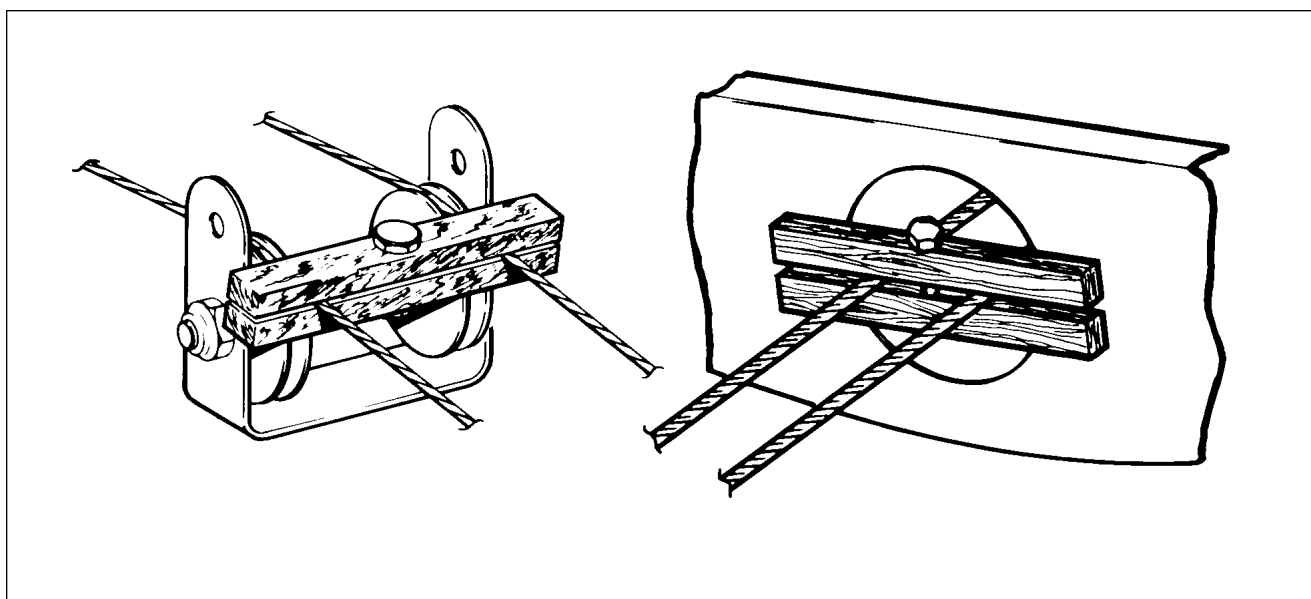

Figure 27-26. Methods of Securing Trim Cables
- (1) To remove trim control wheel assembly and trim control cables, remove the panel to the aft section of airplane.
- (2) If aft trim cable is not to be removed, block cables at the pulleys in upper aft section of fuselage to prevent unwrapping from trim drum. (Refer to Figure 27-26.)
- (3) Loosen the cables if the trim control wheel is to be removed or disconnect if the cables are also to be removed. (Do this at the trim cable turnbuckles in the aft section of the fuselage.)
- (4) Remove control wheel and drum as follows:
- (5) Remove trim control cables as follows:
- (1) Remove access panel to aft section of fuselage.
- (2) Block trim cables at the first set of pulleys forward of cable turnbuckles in aft fuselage per Figure 27-26.
- (3) Disconnect cable at the turnbuckles in aft section of fuselage.
- (4) Remove tail cone attaching screws and remove tail cone.
- (5) Remove nut, washer, bolt, bushing, and sleeve connecting link to screw, and disconnect link between trim screw and trim control arm.
- (6) Remove cotter pin from top of screw, and turn screw down and out of barrel.
- (7) Remove snap ring, washer, and thrust washer from bottom of barrel.
- (8) Remove the four attaching nuts, washers, and bolts and disconnect the diagonal rib from horizontal rib that supports the trim assembly.
- (9) Pull trim cable from fuselage.